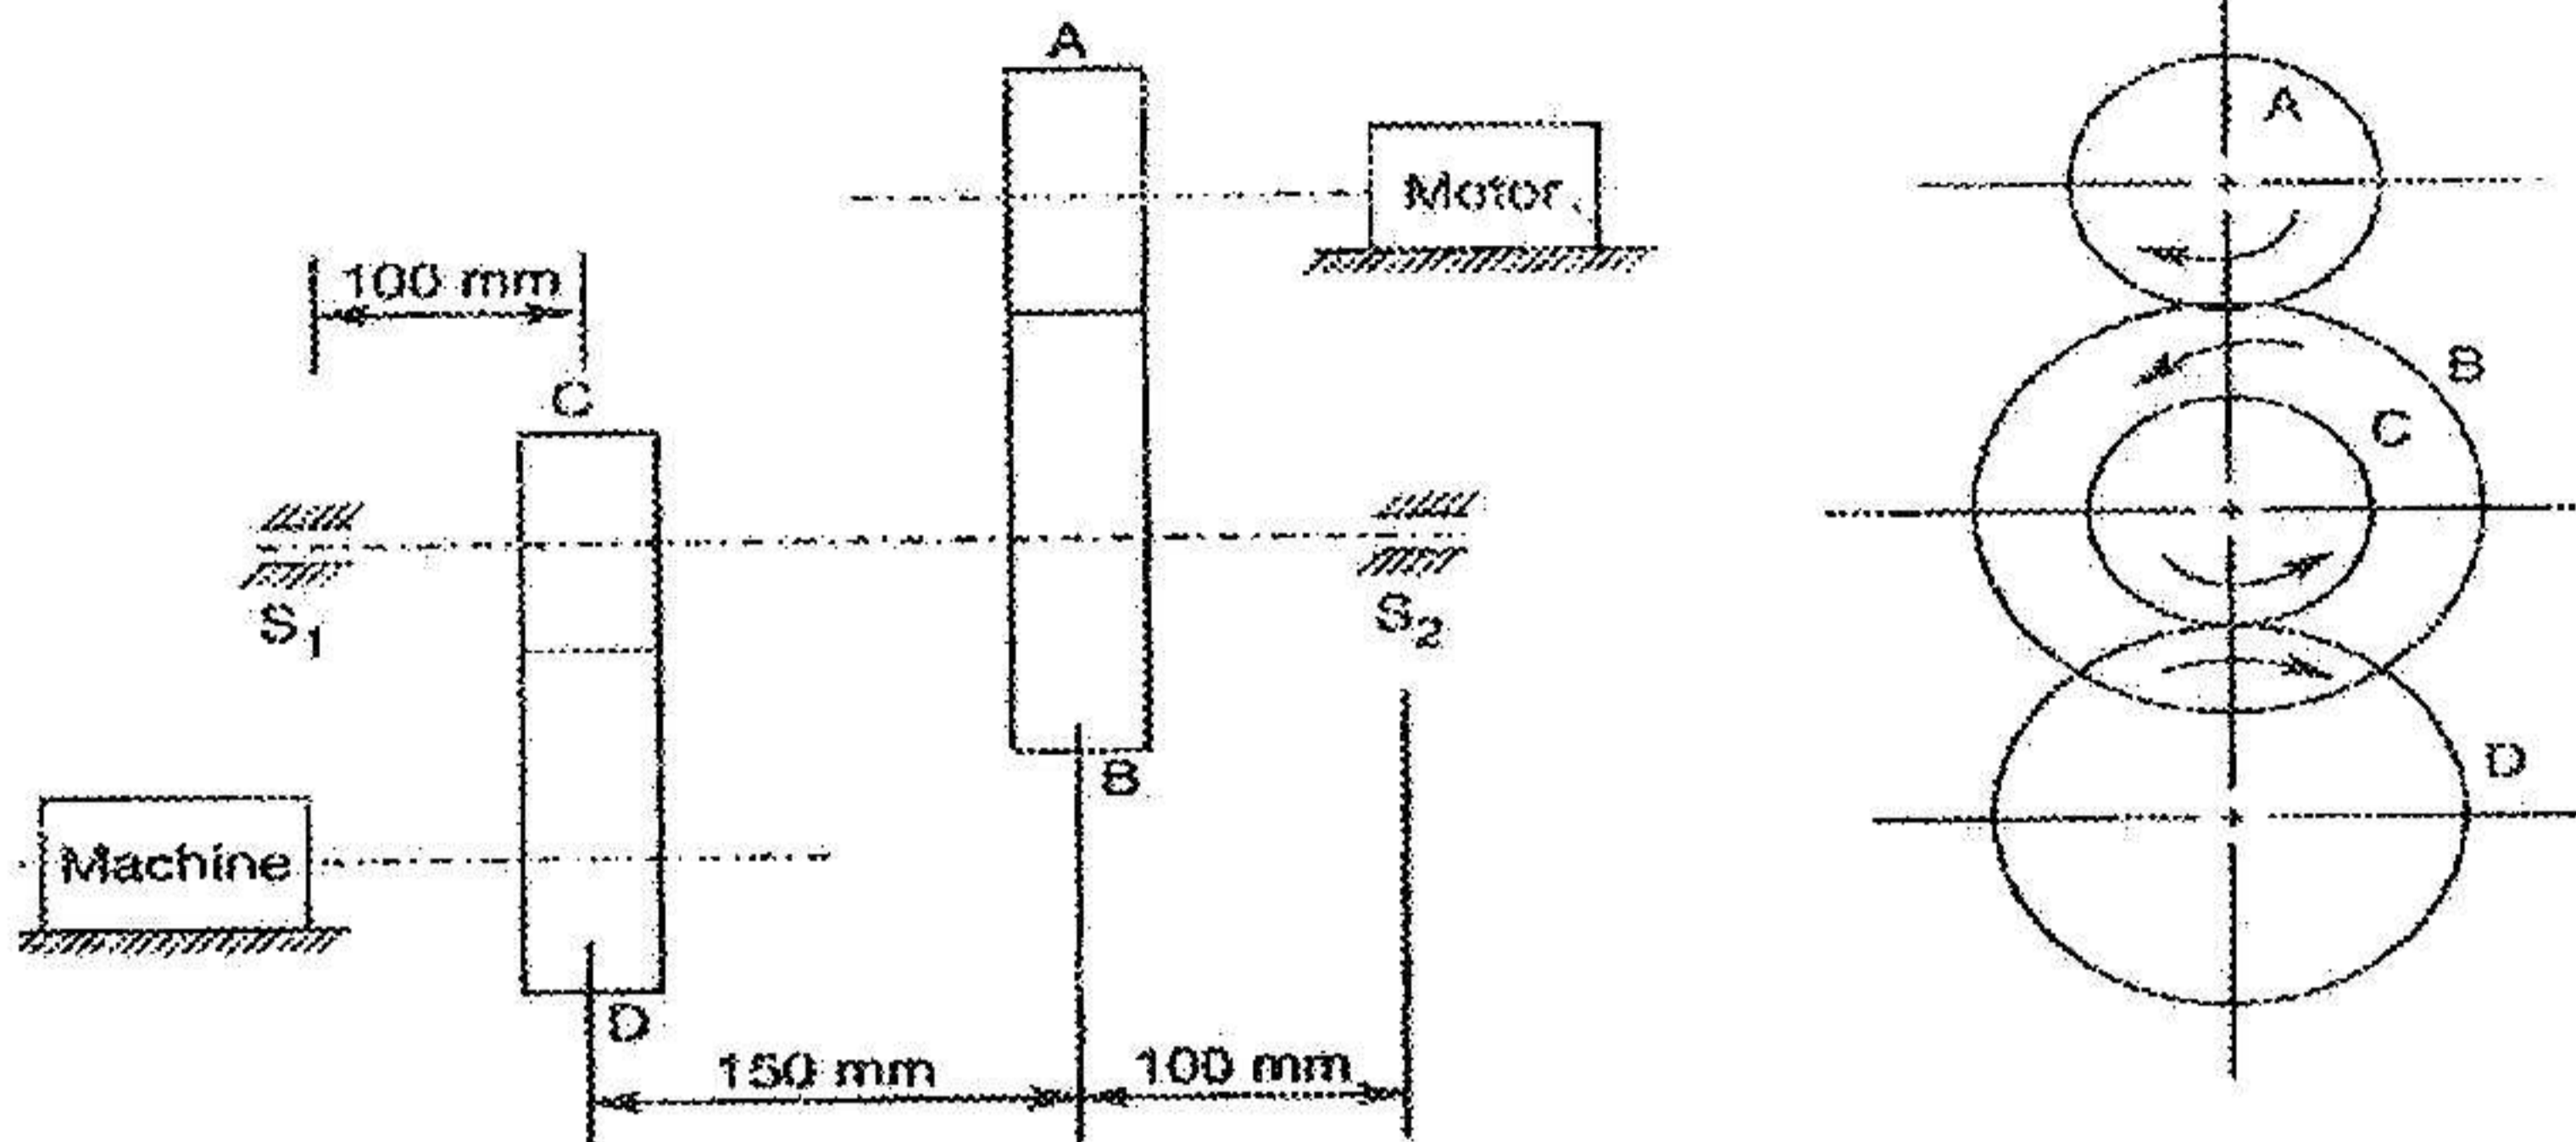

Figure-3
- (b) A gear train transmitting 5 kW at 1440 rpm is shown in the following figure-3. The number of teeth on gears A, B, C, and D are 25, 100, 30, and 150, respectively. All gears have 5 mm module and a 20° full-depth involute profile gear tooth. Calculate the tangential and radial components of forces between gears A and B and between gears C and D. Also calculate the reactions at the bearing supports S1 and S2 due to horizontal forces. **(Marks: 8)**